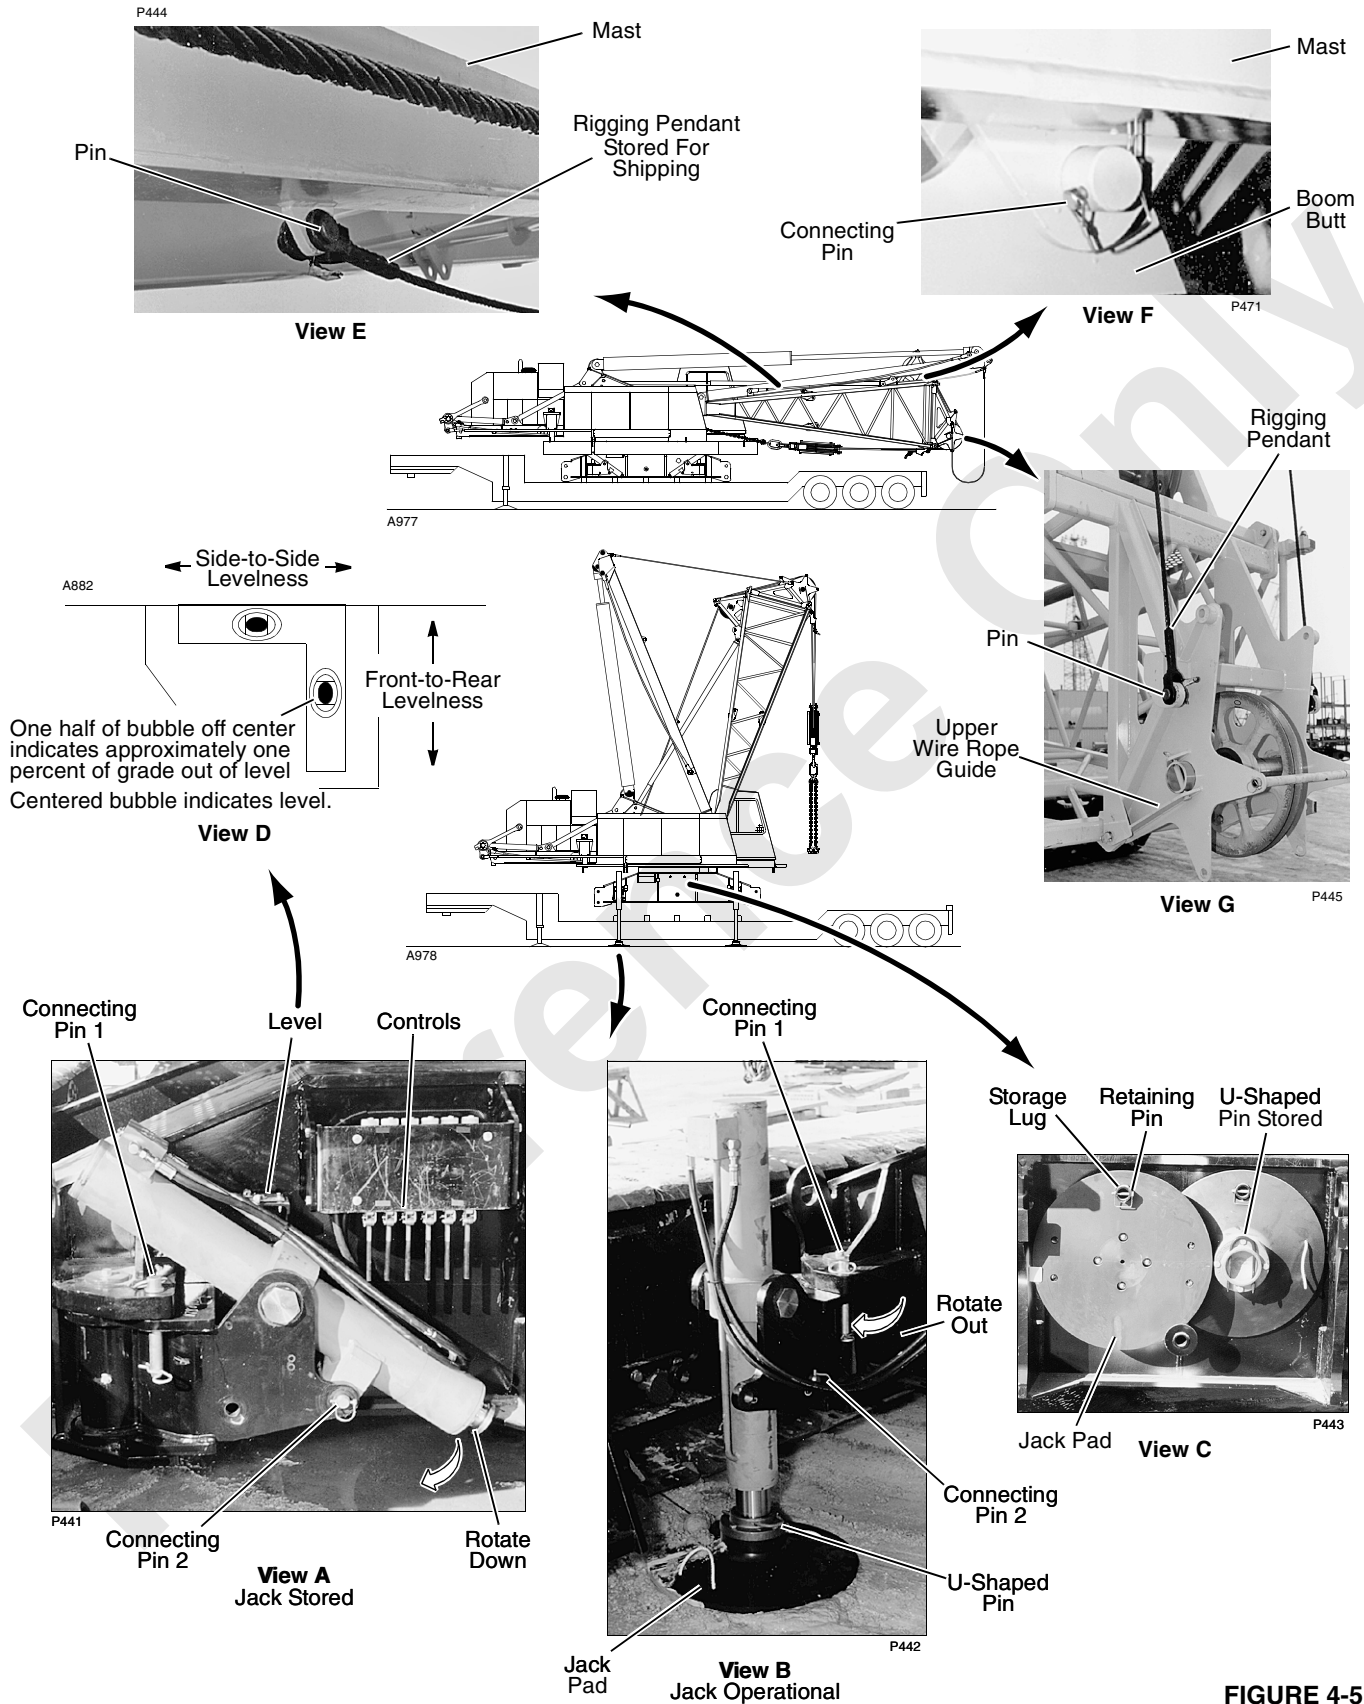

FIGURE 4-5
Keep crane level while jacking. A 2-way level is provided near controls on front of carbody (Figure 4-5, View D).
See Figure 4-5 for the rest of this procedure.
8. Raise boom butt to desired operating position as shown in Figure 4-5. Pay out load line as butt is raised.
16. Remove jack pads and store (Figure 4-5, View C).
- a. Remove connecting pin 2 (Figure 4-5, View B).
- b. Rotate jack up and install connecting pin 2 (Figure 4-5, View A).
- c. Remove connecting pin 1 (Figure 4-5, View B).
- d. Rotate jack in and install connecting pin 1 (Figure 4-5, View A).